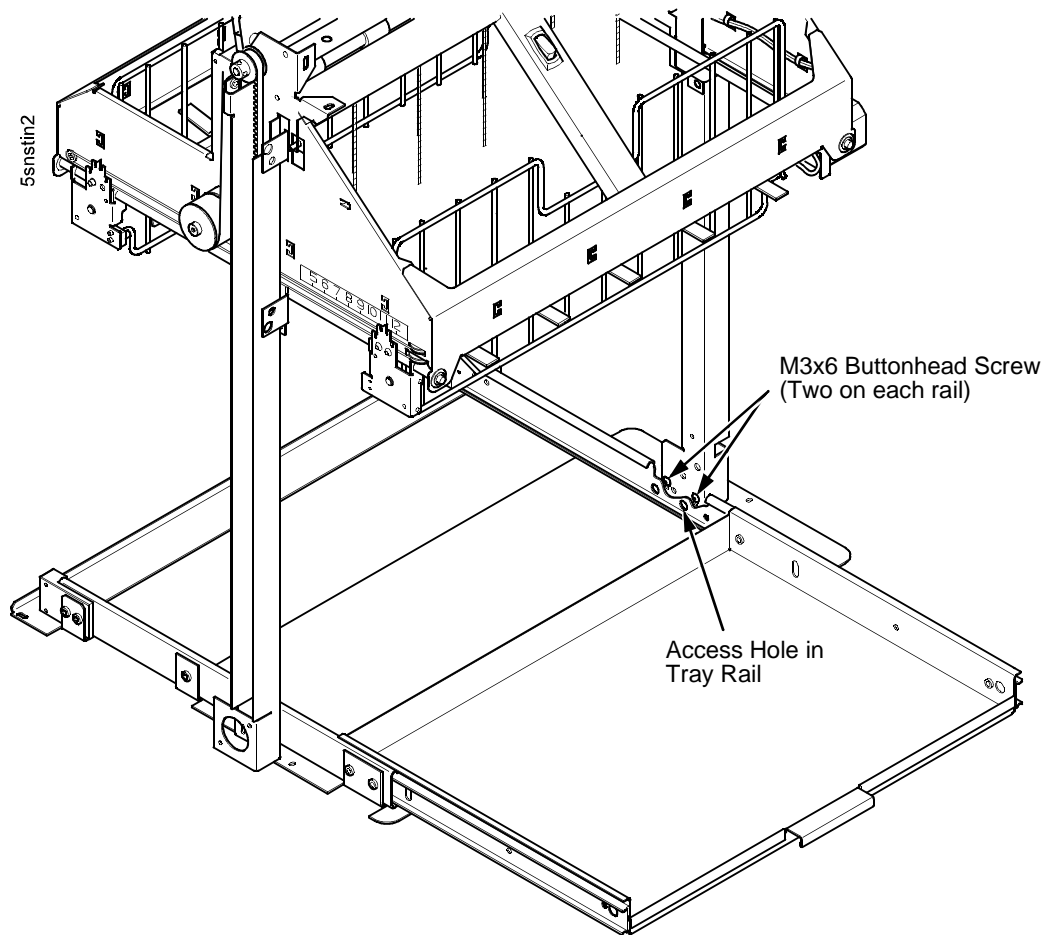

Figure 66. The Lower Screws in the Vertical Rails
9. Pull the paper tray out until the holes in the rails permit access to the M3 buttonhead screws. (Figure 66.)
10. Loosen one turn (do not remove) the M3x6 screws securing the vertical rails to the stacker base. Each rail is secured by two screws. (Figure 66.)